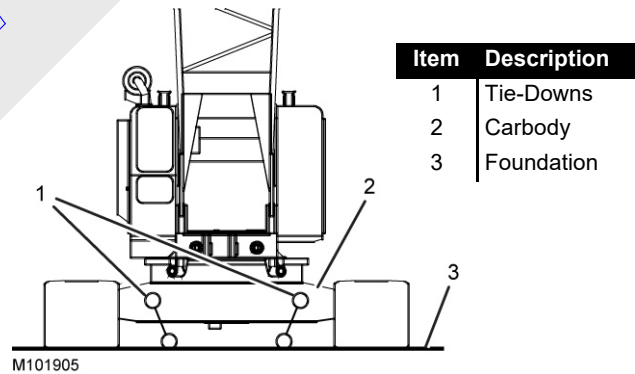

Figure 2-7. Crawler-Mounted Crane
1. Crawler-mounted crane with the carbody anchored with tie-downs to the foundation (Figure 2-7).